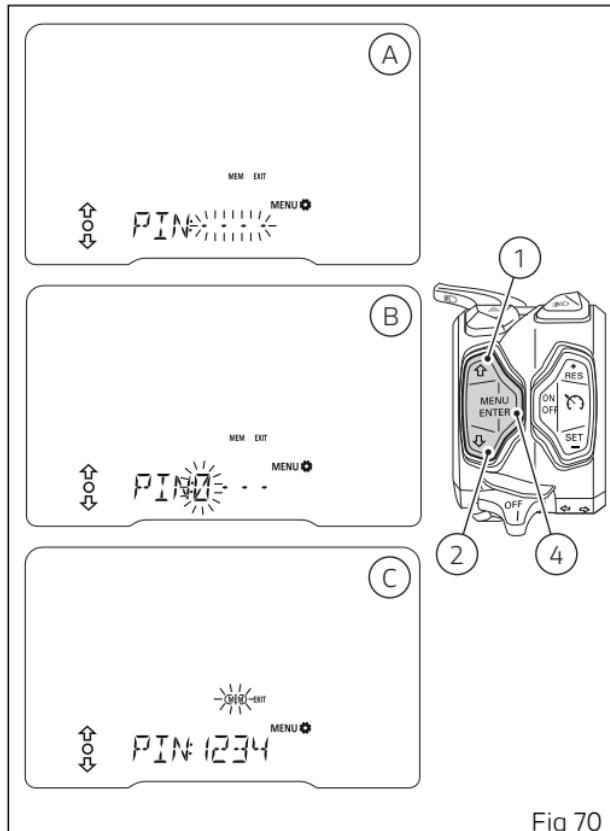

Fig 70
When you press button (4) to confirm the fourth and last digit, the MEM item frame (C) is flashing (Fig 70).
- select EXIT (flashing frame) and press button (4) to quit without saving the PIN CODE;
- select every figure (flashing) of the set code and press button (4) to edit them and repeat the code entry procedure;
- select MEM (flashing frame) (C, Fig 70) and press button (4) to save the new PIN CODE.